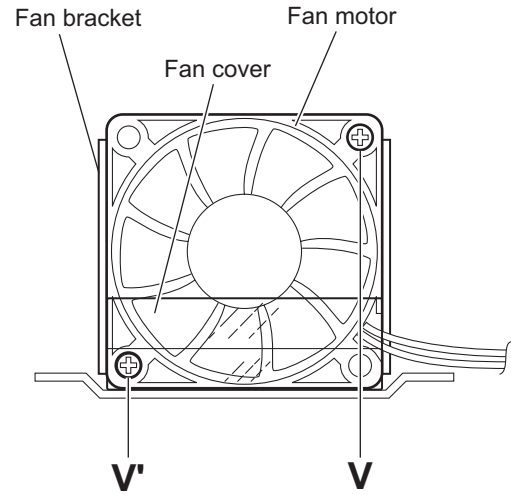

Fig.19
- (4) Remove the screw **V** and screw **V'** attaching the fan motor to the fan bracket. (See Fig.19)